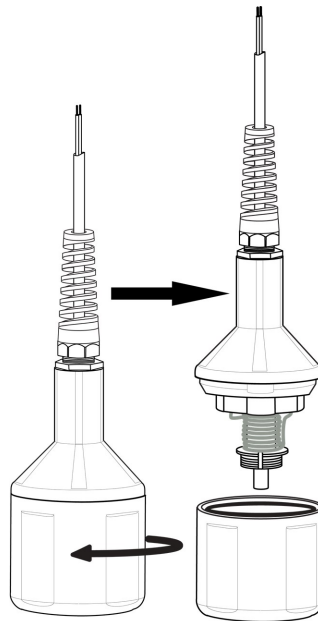

Figure 7-1. Separate the lower body from the upper body
1. Unscrew the lower body from the upper body. See Figure 7-1 (p. 7).